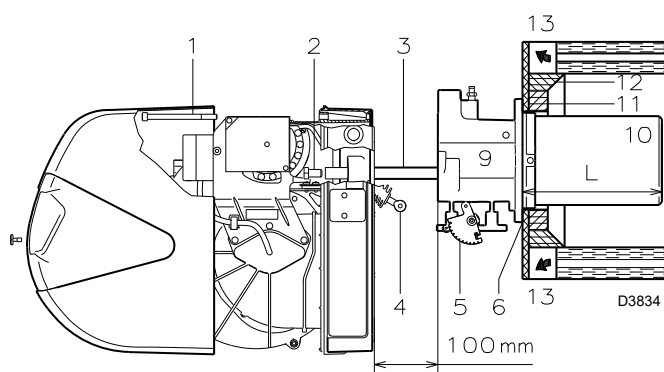
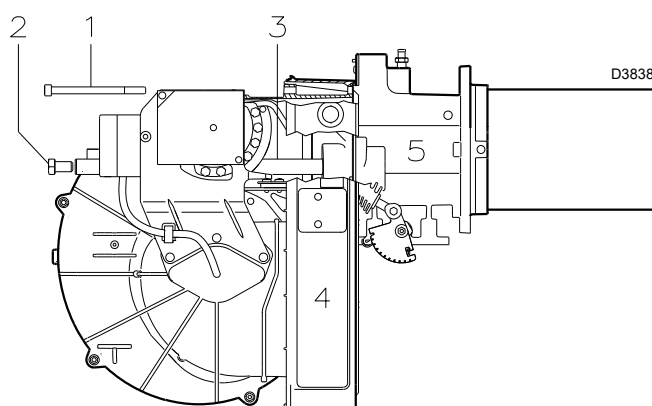

Fig. 11
Fig. 17
For boilers with front flue passes 13)(Fig. 11), a protection in refractory material 11) must be inserted between the boiler refractory 12) and the blast tube 10).
For boilers with a water-cooled front piece, a refractory lining 11)-12)(Fig. 11) is not necessary, unless expressly requested by the boiler manufacturer.
- Separate the combustion head from the rest of the burner (Fig. 11):
Fix the unit 9)(Fig. 11) to the boiler plate, inserting the supplied insulating gasket 6)(Fig. 11). Use the 4 screws, also supplied, after protecting their thread with an anti-locking product.
- Once you have finished adjusting the head, reassemble the burner 4)(Fig. 17) on the guides 3)(Fig. 17) at about 100mm from the pipe coupling 5)(Fig. 17) - burner in the position shown in Fig. 11 on page 16 - insert the cable of the probe and the cable of the electrode, then slide the burner as far as the pipe coupling, burner in the position shown in Fig. 17.